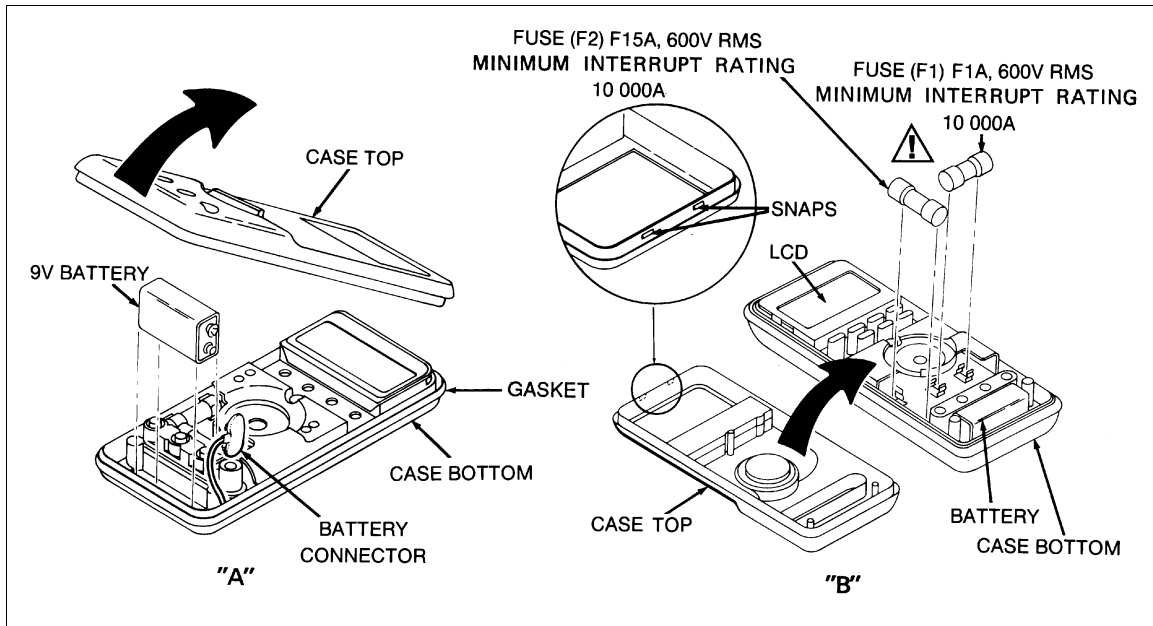

Figure 3-1. Battery and Fuse Replacement
To avoid electrical shock, remove the test leads and any Input signals before replacing the battery or fuses. To Prevent damage or injury, install only quick-acting fuses With the amp/volt ratings shown in Figure 3-1.
3. Turn the case over (display side up), and, lifting up on the input terminal end, disengage the case top from the gasket. Gently unsnap the case top at the display end. See Figures 3-1 and 3-2.
The meter is powered by a single 9 V battery (NEDA 1604, 6F22, or 006P). Referring to Figure 3-1, perform the following procedure to replace the battery:
Referring to Figures 3-1 and 3-2, perform the following procedure to examine or replace the meter's fuses: